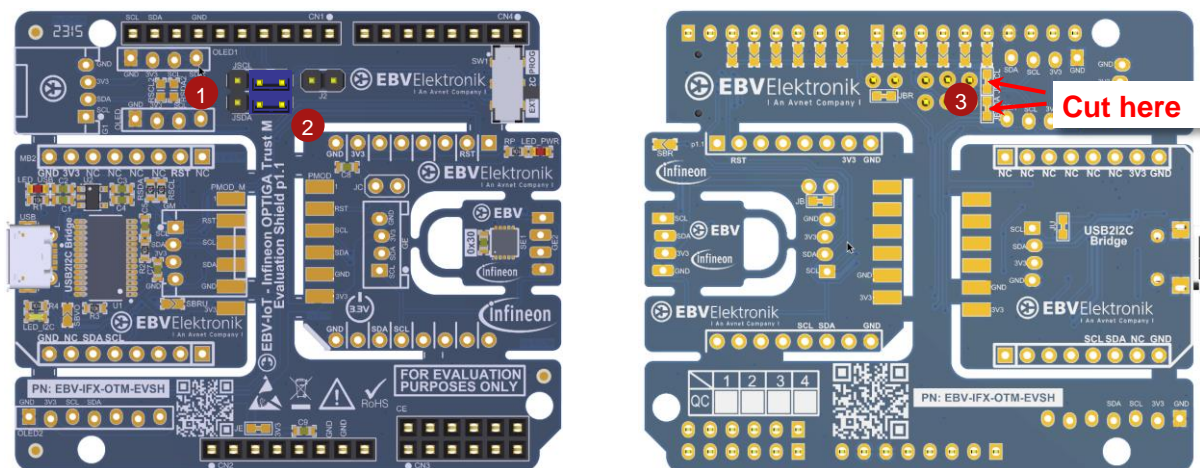

Figure 8: Alternative I2C hardware configuration
To use alternative I2C interface on pins 4 and 5 on CN1 please following steps (Figure 8):
- Close/put jumpers over JSCAL and JSDA as shown on Figure 8 - left
- Open/cut JBSCL and JBSDA bridges (Figure 8 – right)